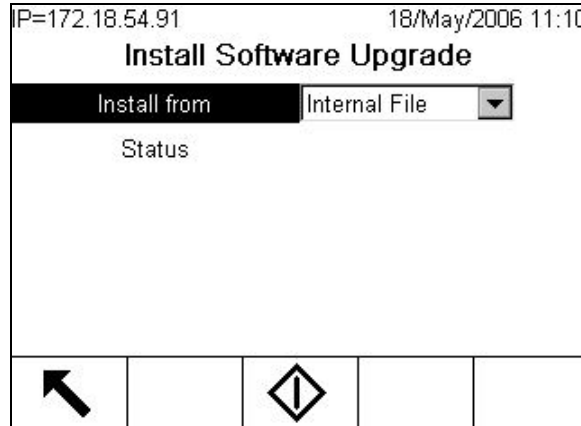

Figure 3-2: Firmware Upgrade Screen
5. Use the arrow keys to move focus to Maintenance > Run > Install Software Upgrade. When the node is in focus, press ENTER. The screen shown in Figure 3-2 will appear.